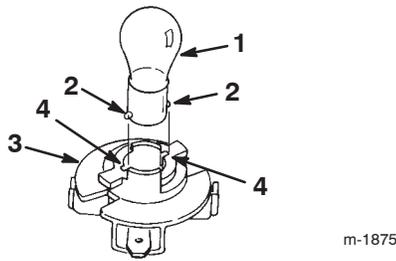

Figure 32
4. Insert and rotate the bulb counterclockwise until it stops (approx. 1/4 turn), and remove the bulb from the bulb holder (Fig. 32).
2. Insert the base into the holder (Fig. 32).